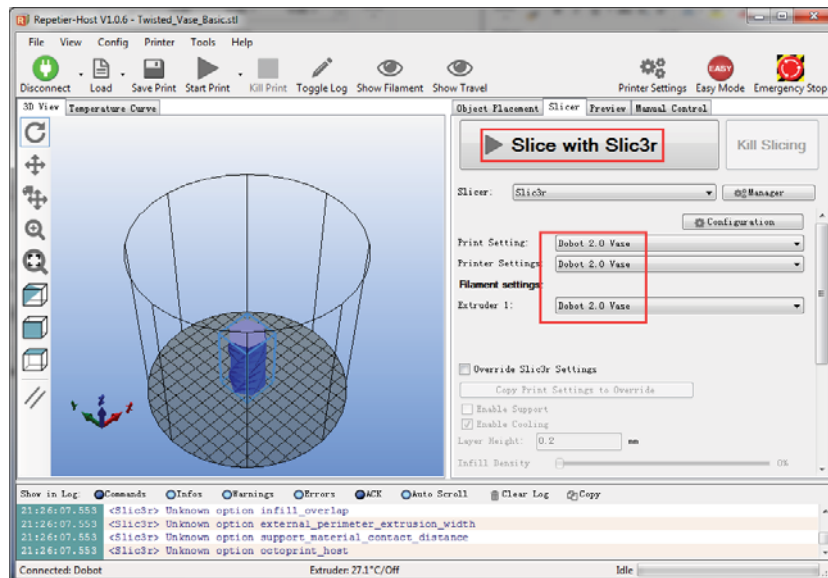

Figure 5.142 Start to slice
6. Click **Slici with Slic3r** on the **Slicer** tab of the **Repetier Host** page, as shown in Figure 5.142.